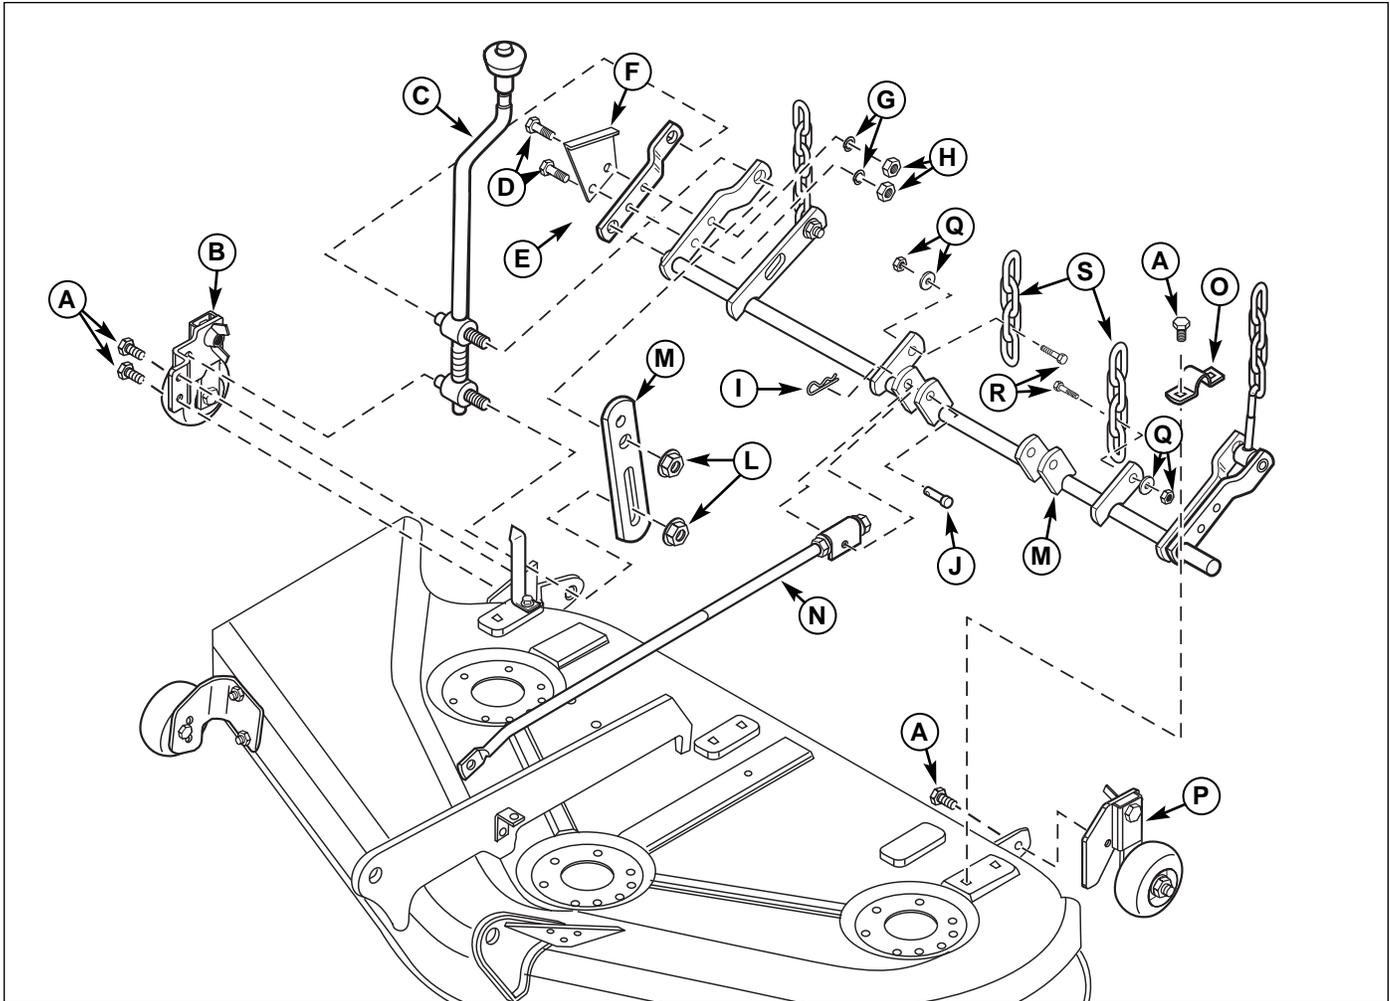

Figure 2. Remove Frame Hung Components
1. Disconnect hair pins (I, Figure 2) and clevis pins (J) from adjustment rods (N). Remove adjustment rods (N) from rocker arm assembly (M). Reconnect hair pins (I) and clevis pins (J) into adjustment rods (N) to prevent loss.
2. Remove and retain 5/16-18 x 1-1/4 cap screws (A). Remove and bracket (B).
3. Remove and retain 5/16-18 x 1-1/4 cap screws (D), arm (E) and crank & trunnion assembly (C). Remove and retain nuts (H), lockwashers (G) and height of cut plate (F).
4. Remove and retain nuts (L). Remove and discard stop (M).
5. Remove and retain straps (O) cap screws (A). Remove and discard rocker arm assembly (K).
6. Remove and retain 5/16-18 x 1-1/2 cap screws (R) locknuts & washers (Q), and chains (S).